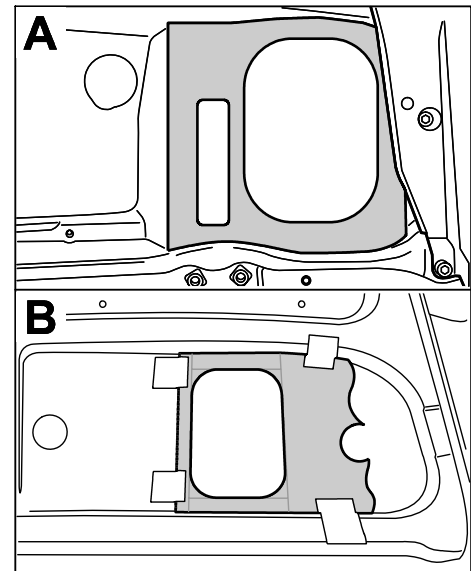

Figure 21
- 7.2 Position template according to ⇒ *Figure 21 -A-* on the standard rear lid or according to ⇒ *Figure 21 -B-* on the aerokit rear lid.